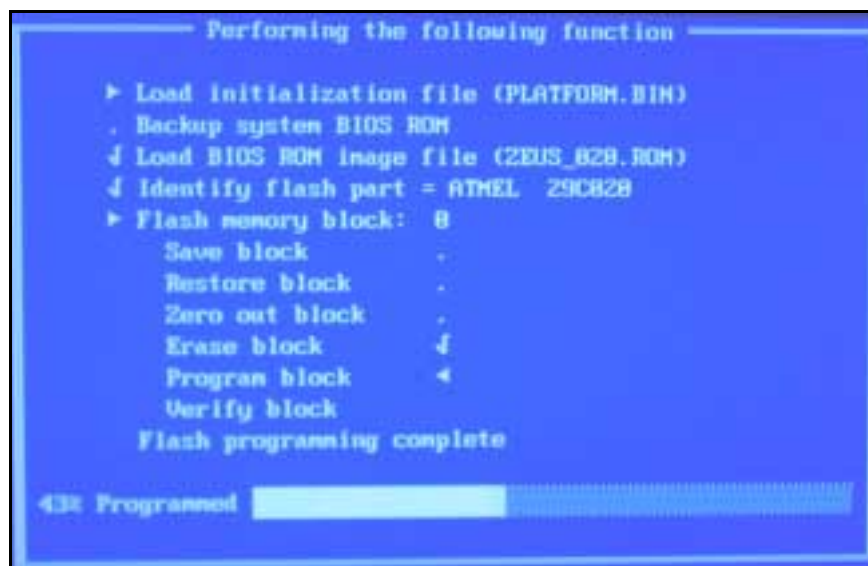

Figure 4-5 Phlash program
9. Verify that Phlash program begins loading new BIOS version (see Figure 4-5).